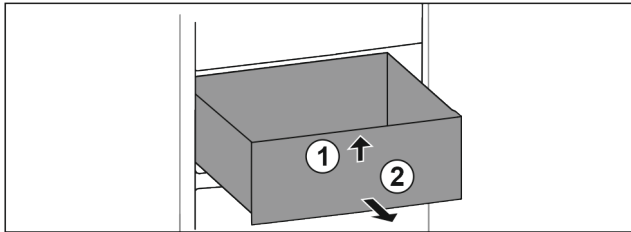

Fig. 97
- Lift up drawer at the front. Fig. 97 (1)
- Remove drawer to the front. Fig. 97 (2)